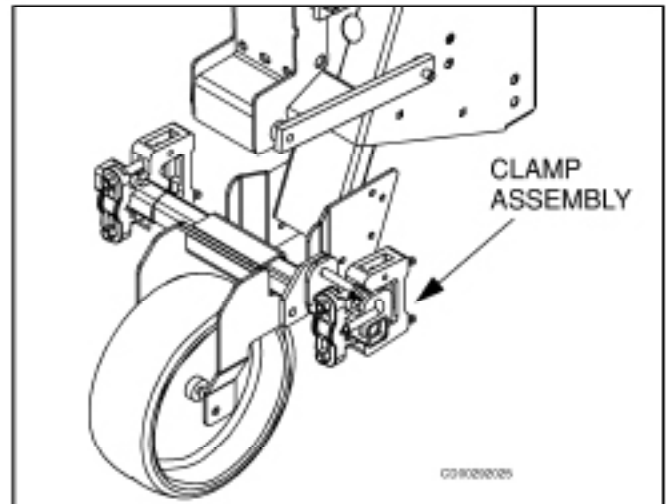

Figure 48 Fastening Clamp
2. Mount clamps on the back side of front tube as shown in Figure 48.